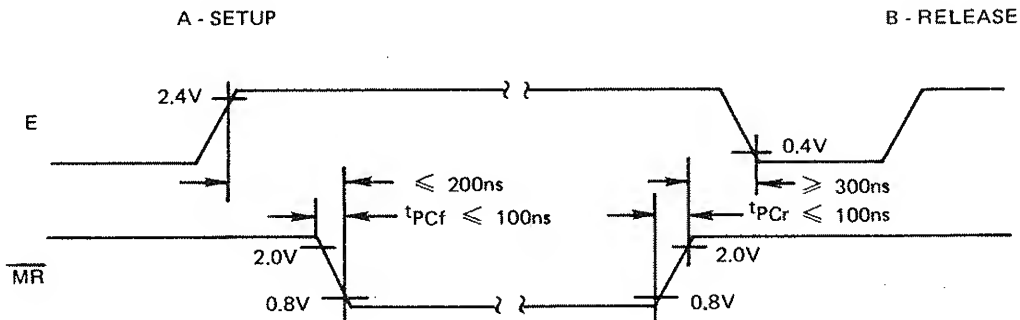

Figure 105a. Memory Ready Timing Diagram
A 4MHz crystal (Y1) is connected between pins 38 and 39 of U1 to provide a 1MHz clock signal for U1 and the rest of the counter. A divide-by-4 circuit on U1 performs the frequency division. The 1 MHz clock, E (O2), can be stretched integral multiples of half periods (500ns) by putting a logic 0 on the MEMORY READY (MR) input. The clock is stretched when interfacing with slow memories or I/O devices. See figure 105a.